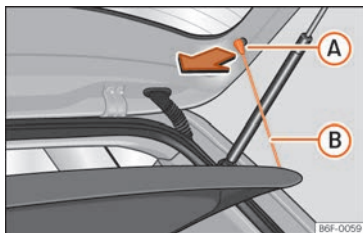

Fig. 108 In the luggage compartment: removing and fitting the shelf.
- Detach the cord loops »»» **Fig. 108 (A)** from their hooks **(B)**.
- Hook the loops »»» **Fig. 108 (B)** to the rear lid.